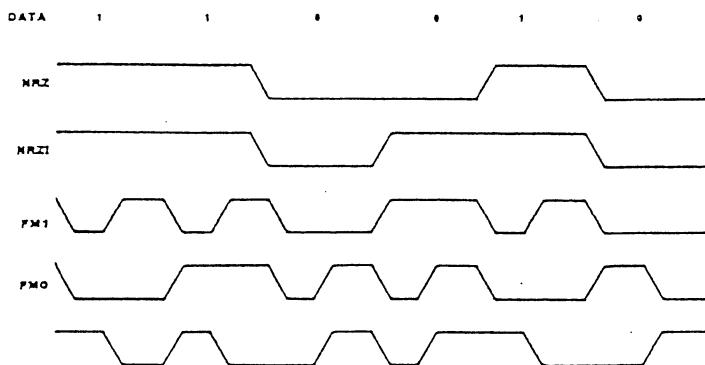

Figure 6. Data Encoding Methods
**Data Encoding.** The SCC may be programmed to encode and decode the serial data in four different ways (Figure 6). In NRZ encoding, a 1 is represented by a High level and a 0 is represented by a Low level. In NRZI encoding, a 1 is represented by no change in level and a 0 is represented by a change in level. In FM1 (more properly, bi-phase mark), a transition occurs at the beginning of every bit cell. A 1 is represented by an additional transition at the center of the bit cell and a 0 is represented by no additional transition at the center of the bit cell. In FMO (bi-phase space), a transition occurs at the beginning of every bit cell. A 0 is represented by an additional transition at the center of the bit cell, and a 1 is represented by no additional transition at the center of the bit cell. In addition to these four methods, the SCC can be used to decode Manchester (bi-phase level) data by using the DPLL in the FM mode and programming the receiver for NRZ data. Manchester encoding always produces a transition at the center of the bit cell. If the transition is 0 to 1, the bit is a 0. If the transition is 1 to 0, the bit is a 1.